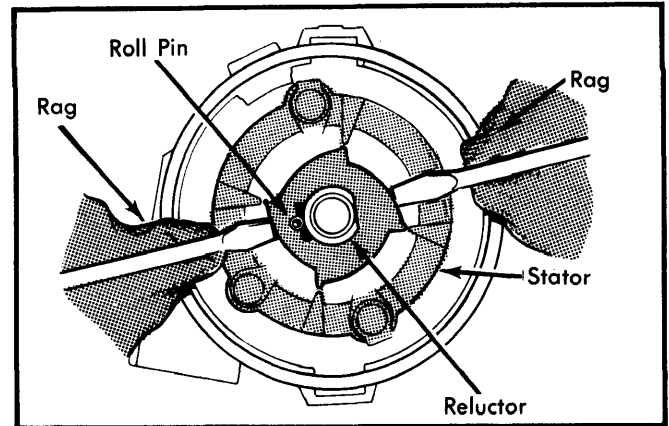

Fig. 11 Removing Reluctor From Shaft
2) Carefully pry upward on reluctor with 2 screwdrivers, cushioned with rags to prevent damage to distributor housing. See Fig. 11. Use care not to damage reluctor or stator. When installing reluctor, drive roll pin in place with its gap away from distributor shaft.